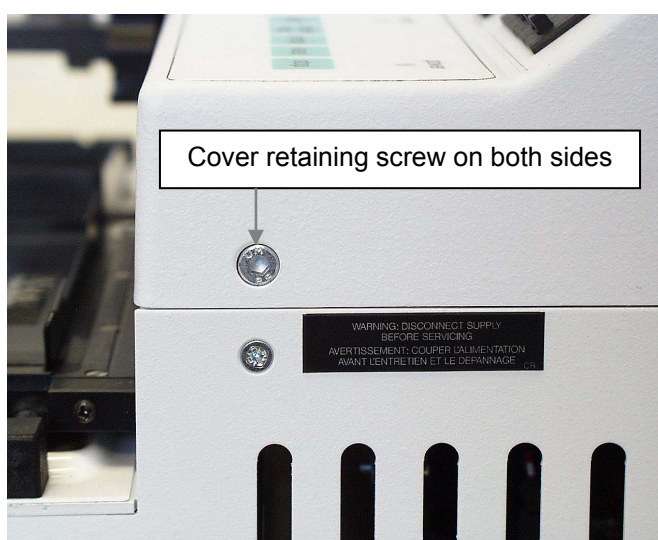

Fig. 5.1 Location of the cover retaining screws
1. Remove the instrument cover retaining screws (Fig. 5.1 and Fig. 4.2) and lift up the cover.